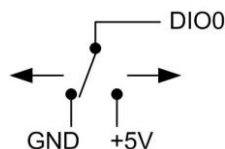

Figure 12. Schematic showing switch detection by digital channel DIO0
When you configure the digital bits for input, you can use the digital I/O terminals to detect the state of any TTL-level input. Refer to the schematic shown in Figure 12. If you set the switch to the +5V input, DIO0 reads *TRUE* (1). If you move the switch to GND, DIO0 reads *FALSE* (0).